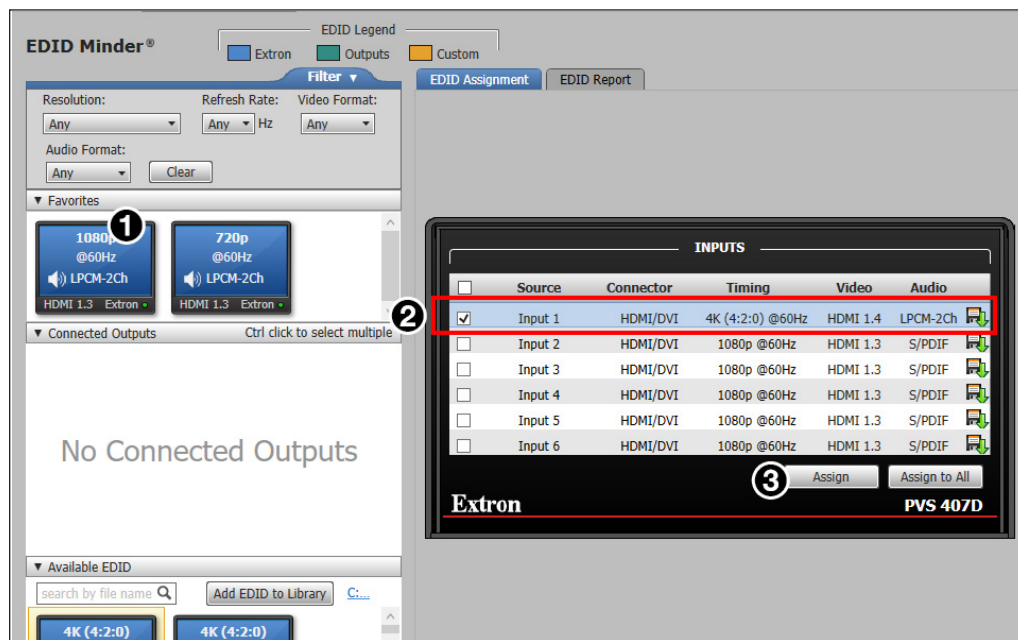

Figure 33. Assigning EDIDs
1. From the table, select an available EDID (❶) (represented by a blue, green, or yellow output display icon) (see figure 33).
2. From the inputs screen (table of inputs) on the right, select the desired input or inputs (❷).
3. Click the **Assign** button (❸) to assign EDID to the selected input or inputs.